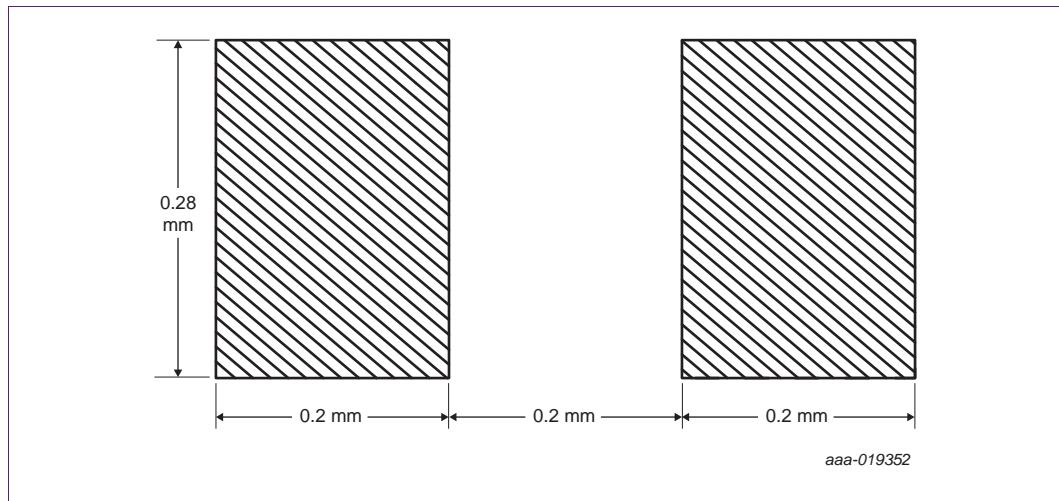
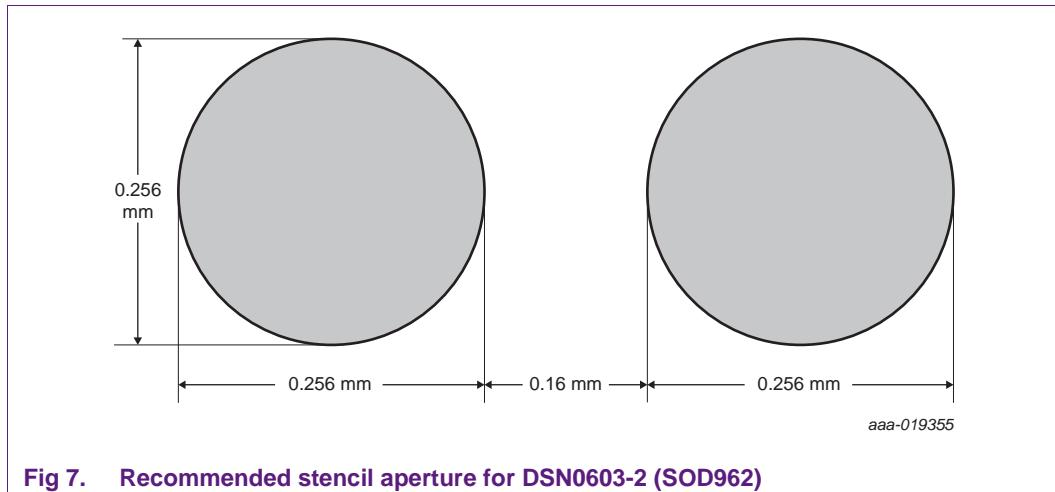

Fig 4. DSN0603-2 (SOD962): recommended reflow solder footprint
Fig 7. Recommended stencil aperture for DSN0603-2 (SOD962)
The DSN0603-2 (SOD962) solder footprint with dimensions and the solder footprint together with the package outline are shown in Figure 4 and Figure 5.
For the DSN0603-2 (SOD962) recommended Nexperia footprint (see Section 3.2.1, Figure 4 and Figure 5), the optimum stencil aperture is shown in Figure 7.
- A stencil aperture dimension as shown in Figure 7 and Figure 12 is recommended for DSN0603-2 (SOD962).